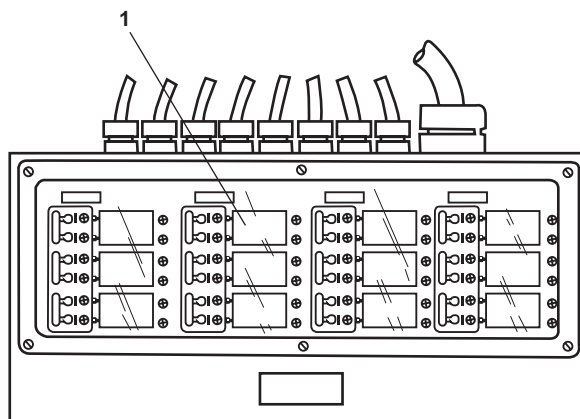

Figure 9. Machinery DC Control Distribution Panel
- i. In the engine room, at the machinery dc control distribution panel, set the MACHINERY MONITOR SYS circuit breaker (figure 9, item 1) to ON.